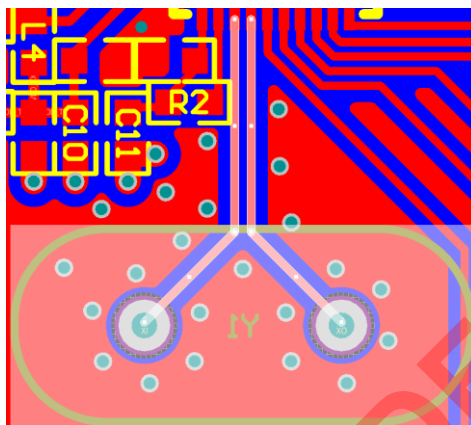

Fig. 2.2c X'tal trace
4. The X'tal traces should be as short as possible and are better to be isolated by ground via. In addition, to minimize cross talk issue, components placement shall be as far away to X'tal trace as possible. Please refer to the white traces in Fig. 2.2c.